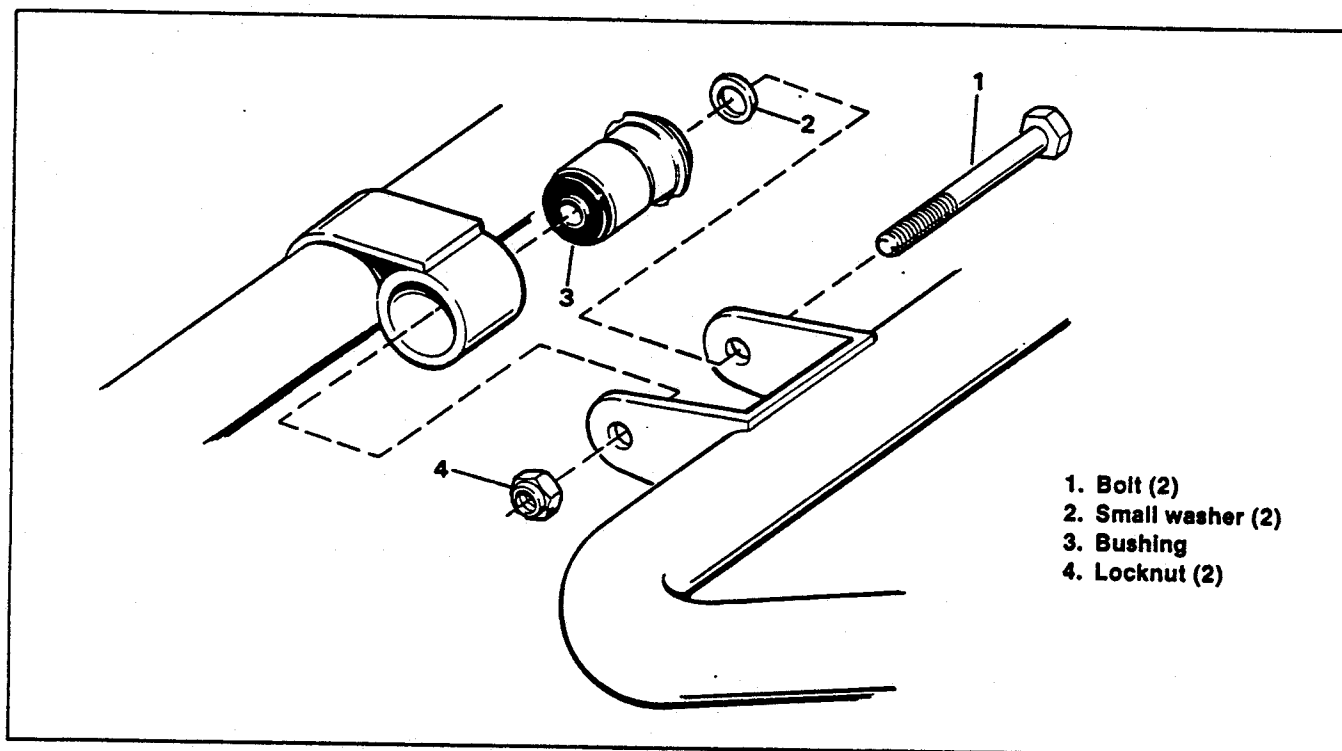

Figure 2-27. Rear Fork Bushing — Exploded View
Replacing Rear Fork Bushing(s) (Figure 2-27)
3. See Figure 2-27. Remove the nut (4) and pull the bolt (1) free of each mounting boss.
1. See Figure 2-27. Place the rear fork in the frame bosses and fasten using bolt (1), washer (2) and nut (4). Do not tighten nut (4) at this time.
3. Let car down off of stands. Compress rear of car to obtain a dimension of 3 inches between top of rear fork rubber bumper and main frame tube. While holding this 3 inch dimension tighten swing arm bushing mounting bolts (4) to 50-60 ft-lbs (6.9-8.3 kgm) torque.